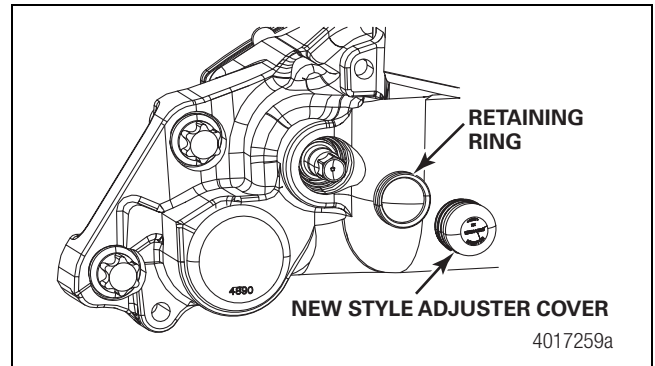

Figure 6.12
2. If you are installing a new style adjuster cover, verify the retaining ring is present and undamaged before installation. Figure 6.12.